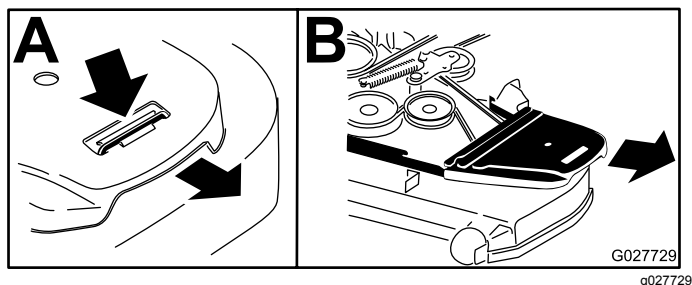

Figure 97
5. Remove the plastic belt cover (Figure 97).
4. Remove the belt covers (Figure 97).